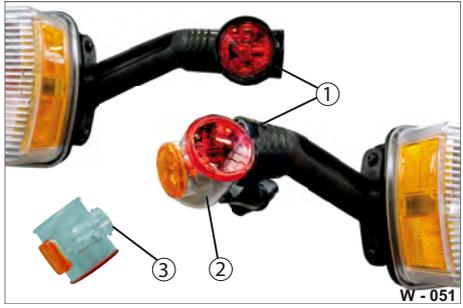
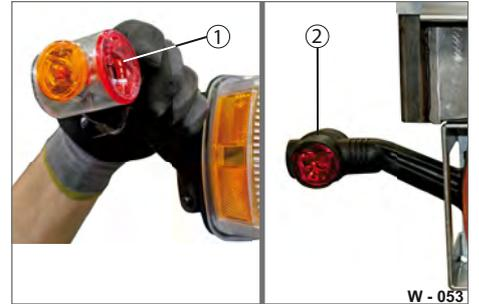

Fig. 59 Removing the rubber arm
Fig. 61 Turning up rubber arm
- ▶ Spray plenty of silicon spray on the rubber arm covering (Fig. 59/1) - this makes turning up and down easier.
- ▶ Remove the rubber arm covering (Fig. 59/1) from the light body (Fig. 59/2) using a slotted screwdriver.
- ▶ Release the screw connection (Fig. 59/3) and remove the light body (Fig. 59/2).
- ▶ Screw on the light body (Fig. 61/1) with the screw fitting (Fig. 59/3). Ensure that the seal is fitted correctly.
- ▶ Put the rubber arm (Fig. 61/2) over the light body.